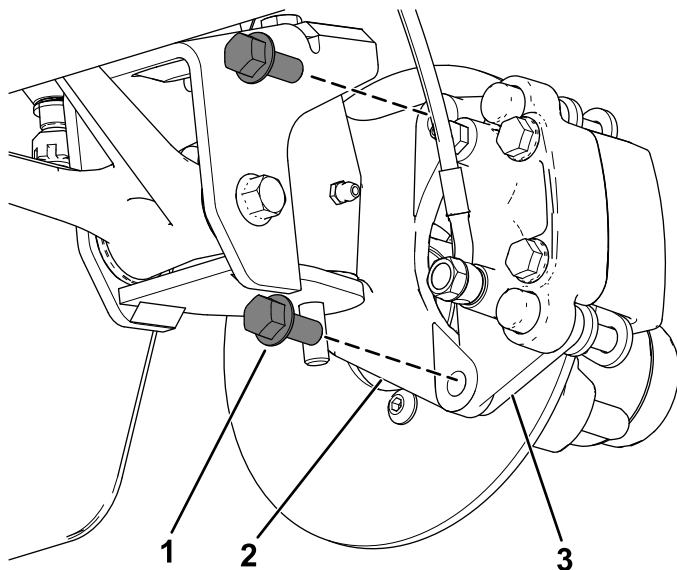
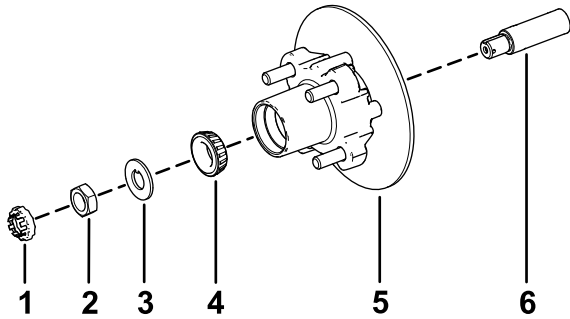

Figure 37
Figure 41
3. Remove the flange-head bolts (3/8 x 3/4 inch) that secure the bracket for the brake assembly to the spindle and separate the brake from the spindle (Figure 37).
1. Apply a light coat of the specified grease to the spindle (Figure 41).
2. Assemble the hub and rotor onto the spindle with the rotor inboard (Figure 41).
3. Assemble the outboard bearing onto the spindle and seat the bearing to the outboard race (Figure 41).
4. Assemble the tab washer onto the spindle (Figure 41).
5. Thread the spindle nut onto the spindle and tighten the nut to 15 N·m (11 ft-lb), while rotating the hub to seat the bearing (Figure 41).
2. Align the brake pads to either side of the rotor (Figure 37) and the holes in the caliper bracket with the holes in the brake mount of the spindle frame (Figure 41).
3. Secure the caliper bracket to the spindle frame (Figure 37) using the 2 flange-head bolts (3/8 x 3/4 inch).